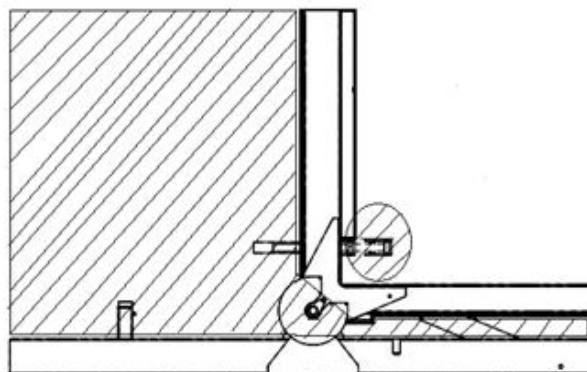

Fig. 5.1 Danger zones of the machine
- Rotate, as in Fig. 5.1, the plate downwards up to the contact with the support structure
- Rotate the plate in the direction opposed to the one represented in fig. 5.1 by bringing in to the initial position